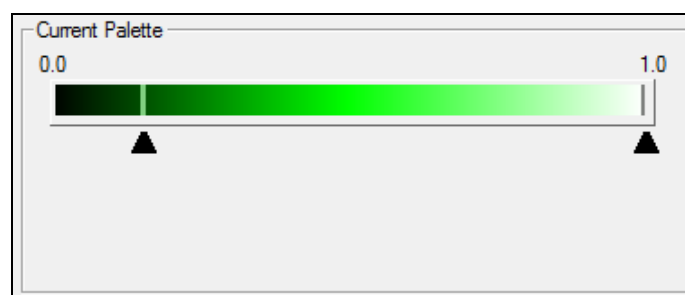

Figure 11 Current Palette section
9. In the *Current Palette* section, move the arrow on the left out of the black range into dark green (Figure 11).